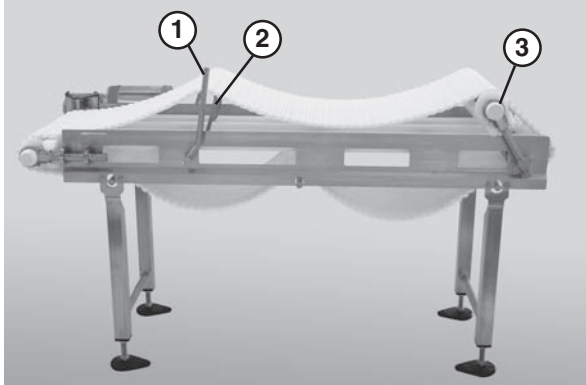

Figure 44
2. Use the lifter handle (**Figure 44, item 1**) to raise the lifters (**Figure 44, item 2**) and raise the tip up tail (**Figure 44, item 3**).